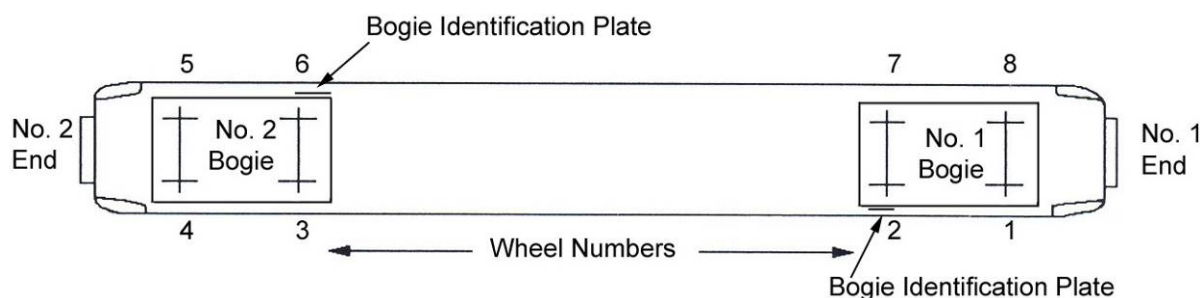
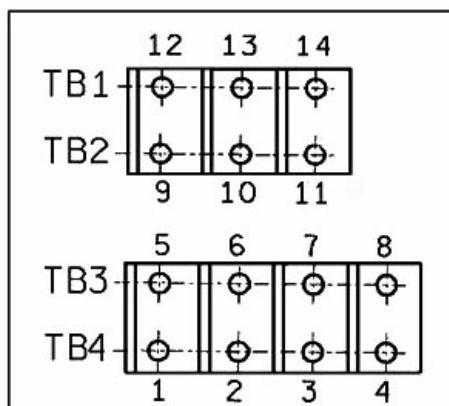

Figure 36.1: Axle Identification
Figure 38.1: Identification of Terminal Numbers within Westinghouse Bogie Junction Boxes
32.2 Clean the faces of axleboxes at wheel positions 1, 2, 5 and 6 (see Figure 36.1).
33.2 Clean faces of axleboxes at wheel positions 1, 2, 5 and 6 (see Figure 36.1).
On No. 2 bogie No. 3 axle is adjacent to the bogie identification plate (see Figure 36.1).
38. On bogies fitted with Westinghouse WSP equipment check that the wiring is connected within the junction boxes as shown in Table 6 and Figure 38.1. (See Figure 36.1 for identification of axles).